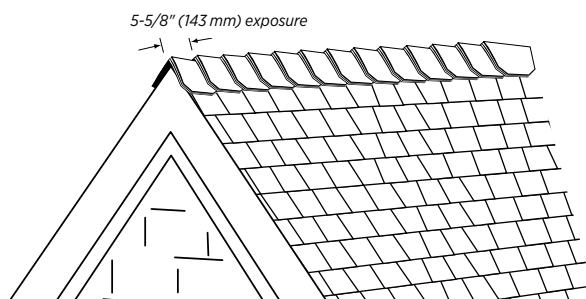
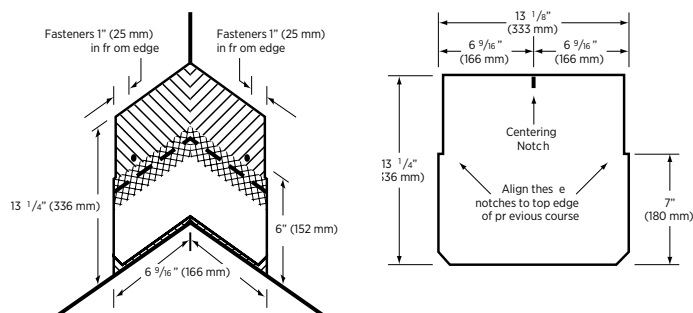

Figure 11-12: Apply a full cap shingle over the starter piece, flush with the bottom and side edges of the starter.
Figure 11-14: Shadow Ridge XL Fastening
For the first row, starting with one complete piece of a hip and ridge shingle, cover the starter course shingle by lying flush to the bottom and sides of the starter course and fasten as per 11-14. All subsequent rows are formed by bending the hip and ridge shingle along the centerline leaving 5 5/8" (143 mm) exposure. (Figure 11-12).
For the first row, starting with two (2) complete pieces of hip and ridge shingles placed one on top of each other, cover the starter course shingles and fasten as per Figure 11-14. For all subsequent rows, apply two complete pieces of hip and ridge shingles placed one on top of each other over the previous row while ensuring a 5-5/8" (143 mm) exposure (Figure 11-12).
For the first row, starting with three (3) complete pieces of hip and ridge shingles placed one on top of each other, cover the starter course shingles and fasten as per Figure 11-14. For every subsequent row, apply three complete pieces of hip and ridge shingles placed one on top of each other over the previous row while ensuring a 5-5/8" (143 mm) exposure (Figure 11-12).